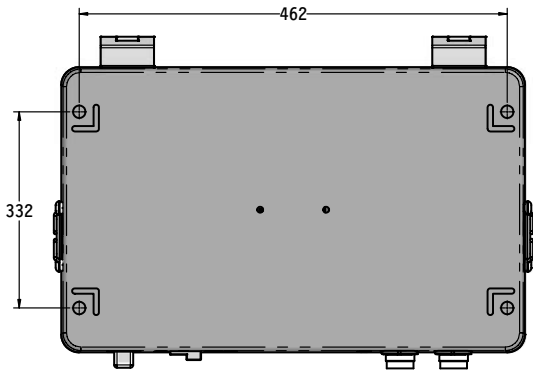

Figure 12: Mounting bolt pattern dimensions
1. Refer to Figure 12. Mount the driver using the mounting hole pattern shown below.